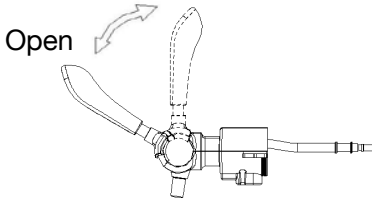

Figure 13
a. Adjust the CO2 pressure regulator knob to “+” position, to pour the beer out by pulling down the tap mechanism about 45°, and you can adjust the pressure regulator knob to control the beer flow rate and beer bubble; (Figure 13)